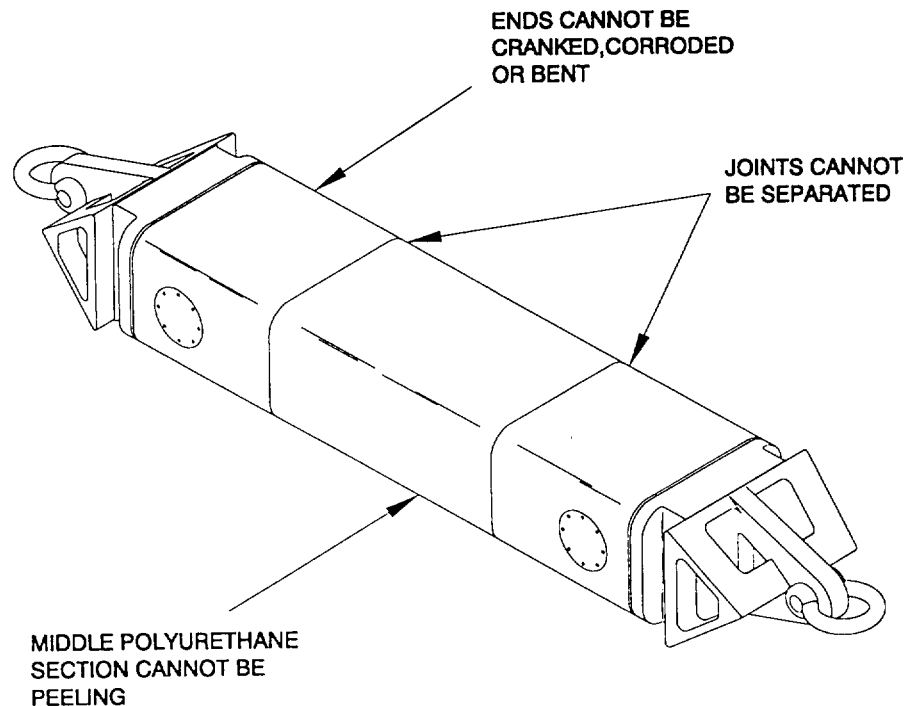

Figure 2-91. Flexor, Pontoon Assemblies, Inspect.
a. *Inspect.* (figure 2-91)
- (1) Inspect middle polyurethane section of flexor connector for peeling or absence of chunks of polyurethane. Flexor must be discarded if any is noted.
- (2) Check that joints between metal ends and polyurethane mid-section of flexor is not separating. If separation is noted, flexor must be discarded.
- (3) Check that metal ends are not cracked, bent or corroded. If any bends, cracks or corrosion is noted, flexors must be discarded.